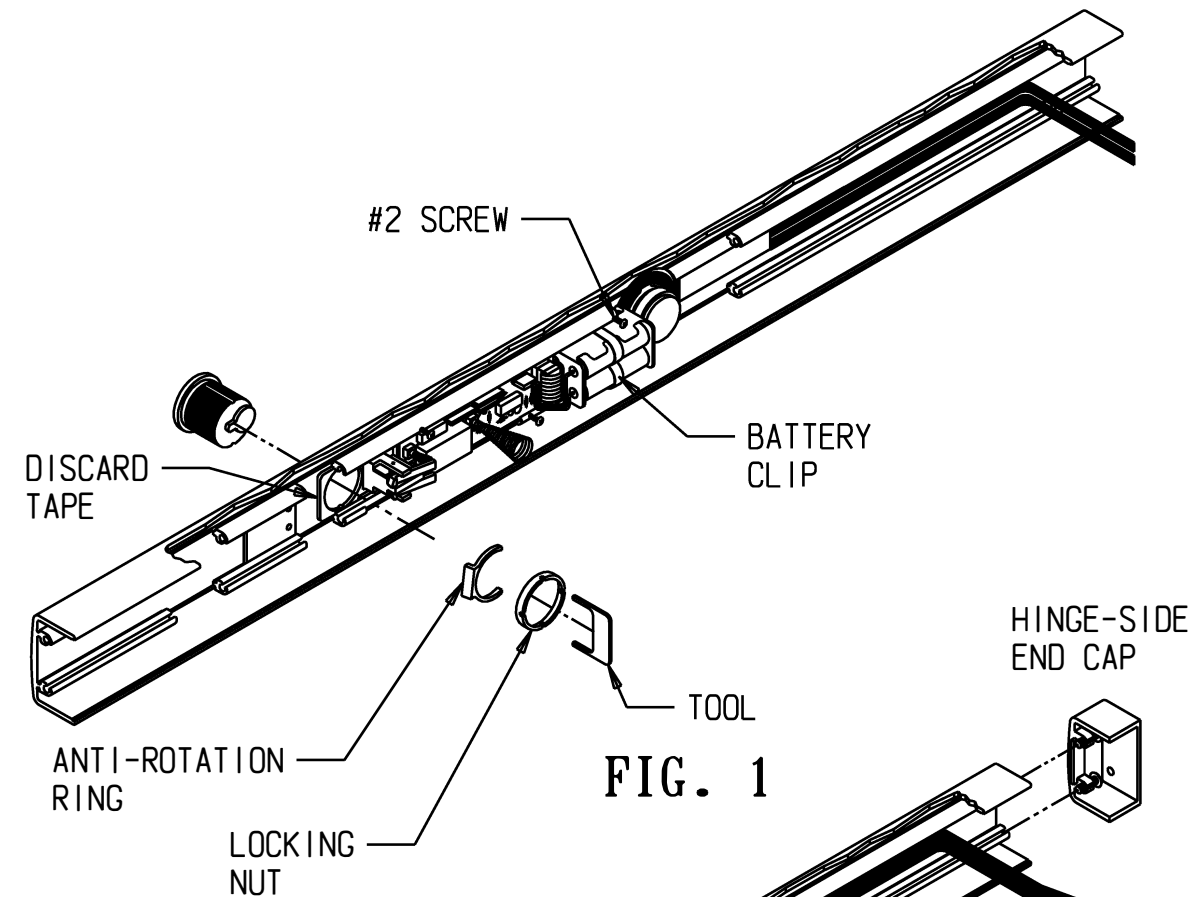

FIG. 1
## INSERT BATTERIES (SEE FIG. 1 ON OPPOSITE PAGE)
(SEE FIG. 1 ON OPPOSITE PAGE)
1. INSERT THE MORTISE CYLINDER AND TIGHTEN THE LOCKING NUT USING THE TOOL PROVIDED AS SHOWN IN FIG. 1. THE UNIT WILL ACCEPT FROM 1 INCH TO 1 1/8 INCH LONG MORTISE CYLINDER WITH AN M.S.® CAM.